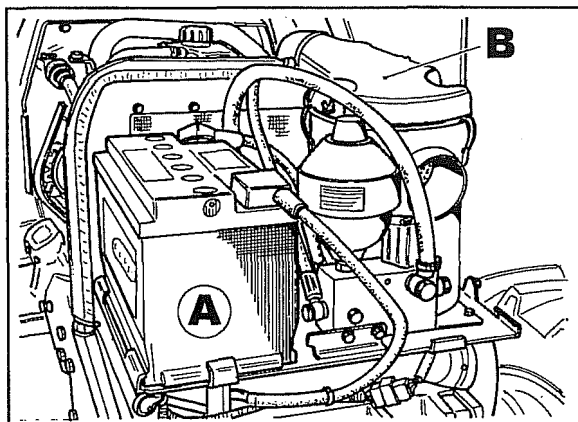

Fig. 5
3. Remove the cowl, remove battery **A** fig. 5 and disconnect air filter baffle **B**.